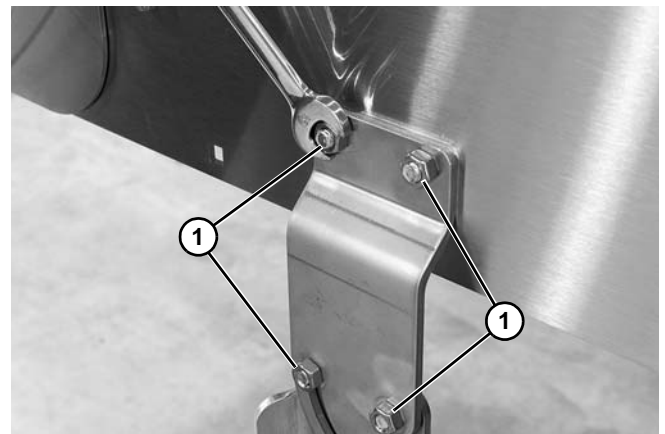

Figure 9
2. Remove fasteners (Figure 9, item 1) securing the stand brackets from one side of the conveyor and remove brackets.